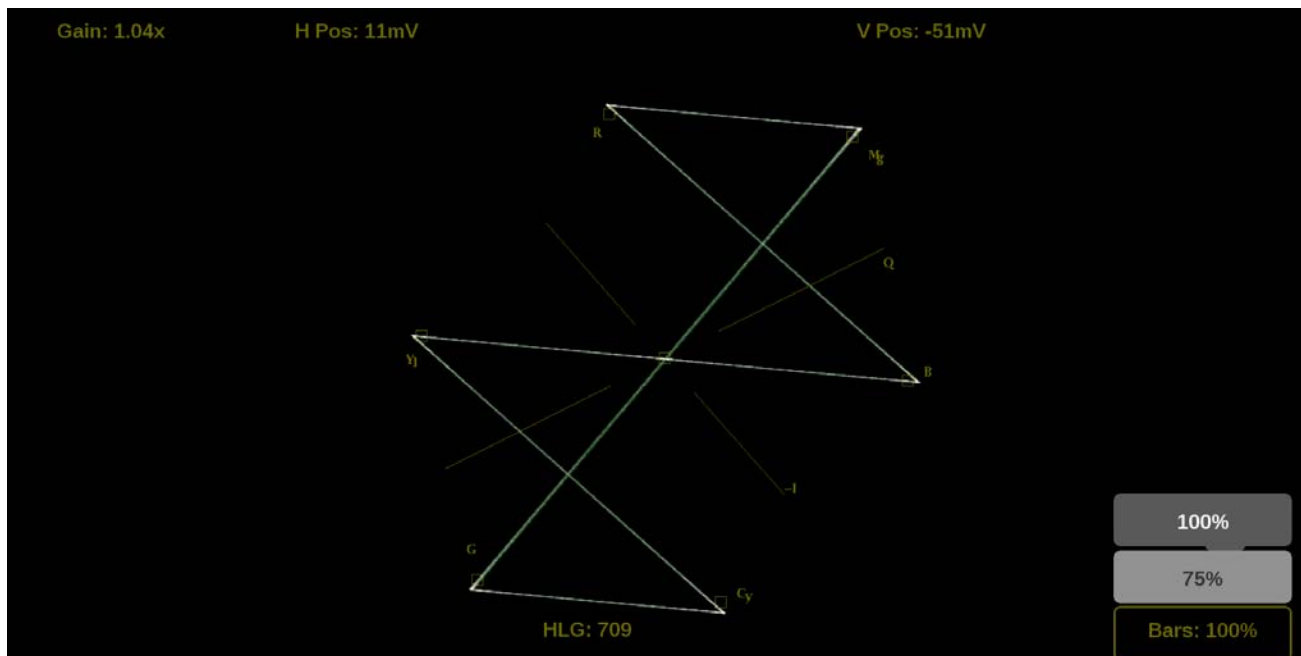

Figure 97: Vector on-screen tools – Bar Targets
1. Touch the **Bars** button in the bottom right corner of the application to expand the available options. (See Figure 97.)